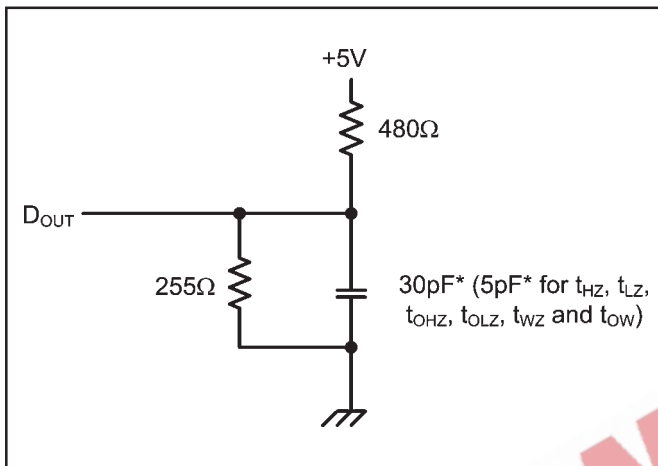

Figure 1. Output Load
- 8. Transition is measured  $\pm 200$  mV from steady state voltage prior to change, with loading as specified in Figure 1. This parameter is sampled and not 100% tested.
Output Load	See Figures 1 and 2